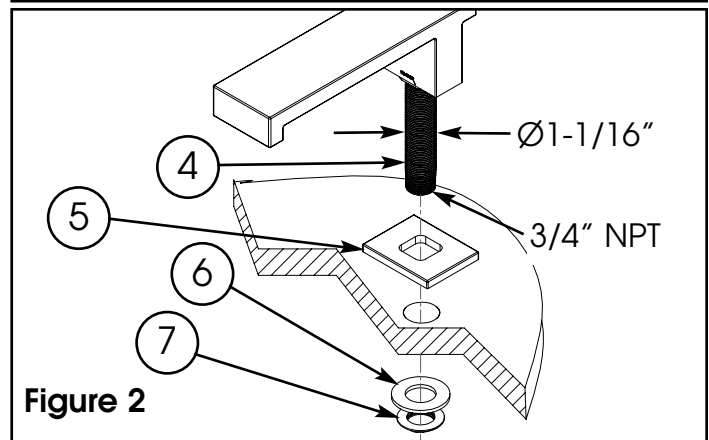

Figure 2
- Slide spout NIPPLE (4) through base PLATE (5) and center hole of mounting surface. Make sure spout is flush with base PLATE (5).
- Secure into place with WASHER (6) and flange NUT (7). See Figure 2.